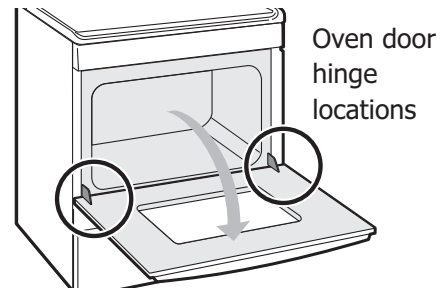

Figure 33: Door hinge location
1. Open oven door completely, horizontal with floor (See Figure 33).
3. Fully open the oven door, horizontal with floor (See Figure 33).